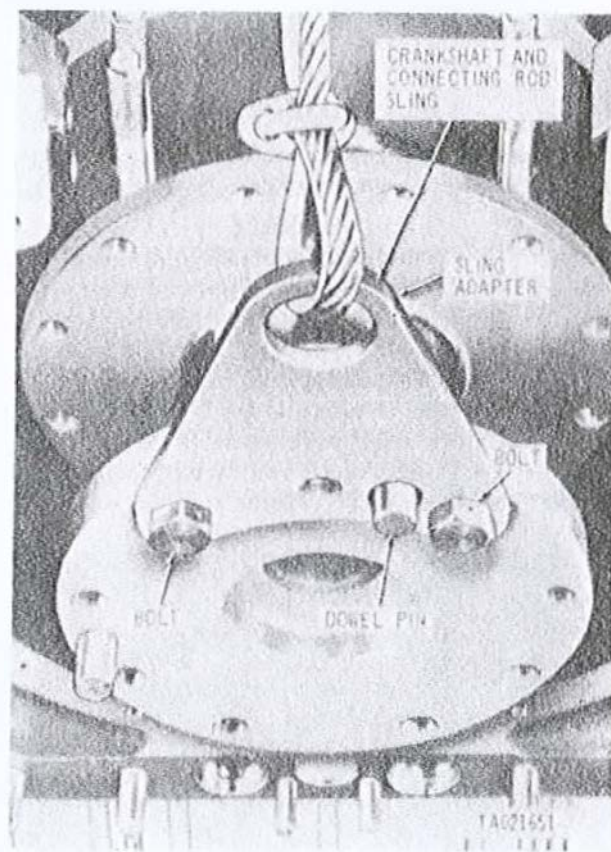

Figure 3-132. Installing or removing crankshaft and connecting rod sling at crankshaft flywheel flange.
- g. Install the sling adapter (fig. 3-132) on flywheel flange dowel pin and secure the adapter to flange with two flywheel mounting bolts.